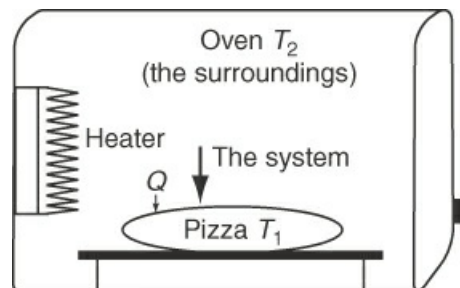

Figure 8.7 Heat transfer is energy that crosses the system boundary because of a temperature difference.
In a discussion of *heat transfer*, we enter an area in which our everyday use of the term *heat* may cause some confusion because we use heat in a very restricted sense when we apply the laws governing energy changes. **Heat transfer** (Q) is commonly defined as that part of the total energy flow across a system boundary that is caused by a temperature difference (potential) between the system and the surroundings (or between two systems). See Figure 8.7. Engineers say “heat” when meaning “heat transfer” or “heat flow.” Because heat is based on the transfer of energy, heat cannot be stored. **Heat is positive when transferred to the system and negative when removed from the system.** Heat is a **path variable**.